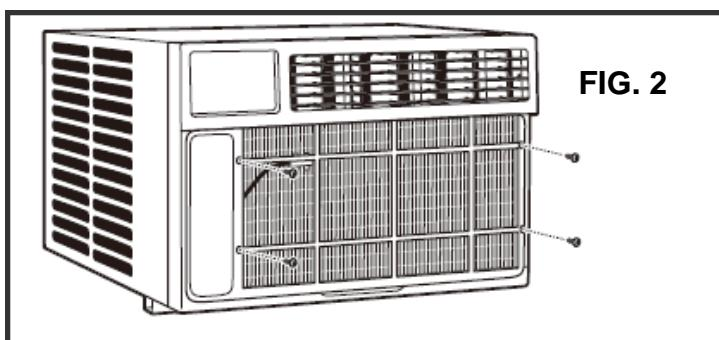

FIG. 2
3. Locate the four faceplate screws and remove. These screws will need to be re-installed prior to mounting the air conditioner (FIG. 2 above)